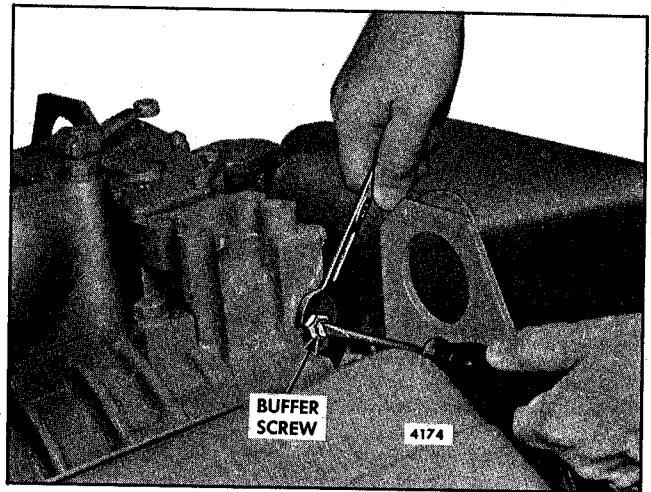

Fig. 27 - Adjusting Buffer Screw
1. With the engine running at idle speed, turn the buffer screw in (Fig. 27) so that it contacts the differential lever as lightly as possible and still eliminates engine roll.